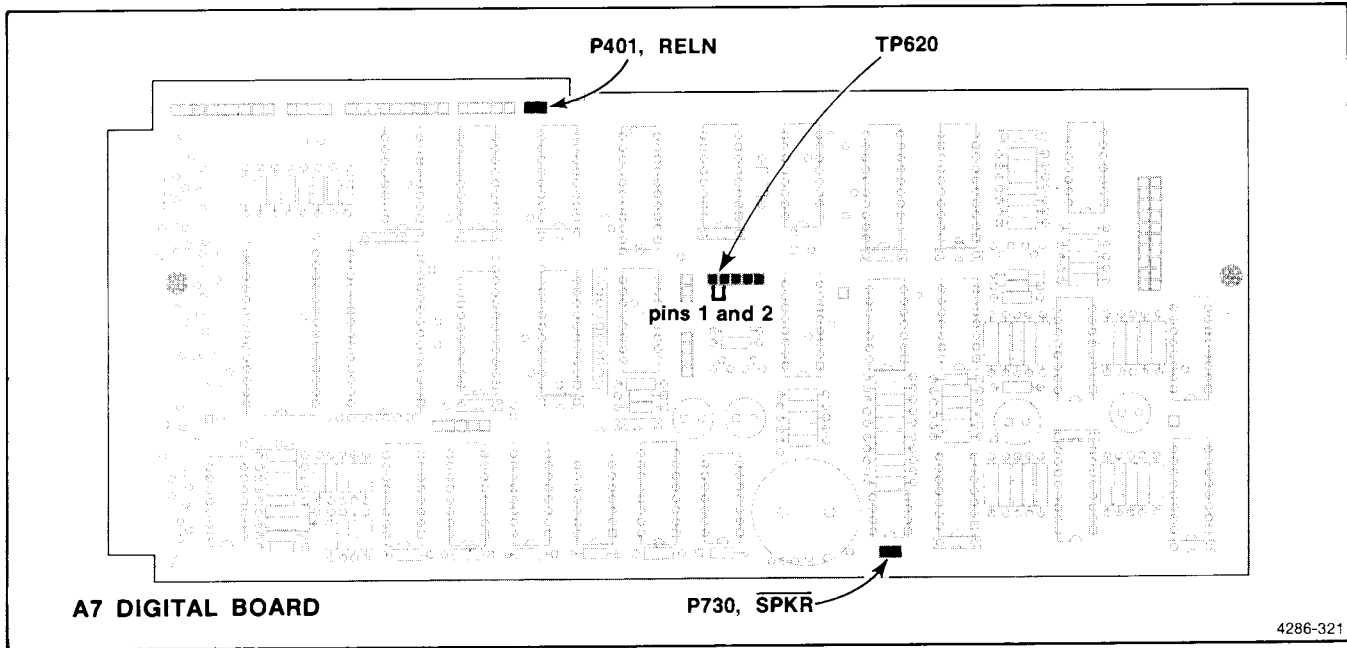

Figure 3-8. Location of jumpers on the A7 Digital Board.
10. Install the  $\overline{SPKR}$  link-plug jumper, A7P730, to disable the speaker. See Figure 3-8 for link-plug jumper location. Use long-nose pliers to access A7P730 through the hole in the bottom rail.
4. Install the  $\overline{\text{SPKR}}$  link-plug jumper A7P730 to disable the speaker. See Figure 3-8 for jumper location.